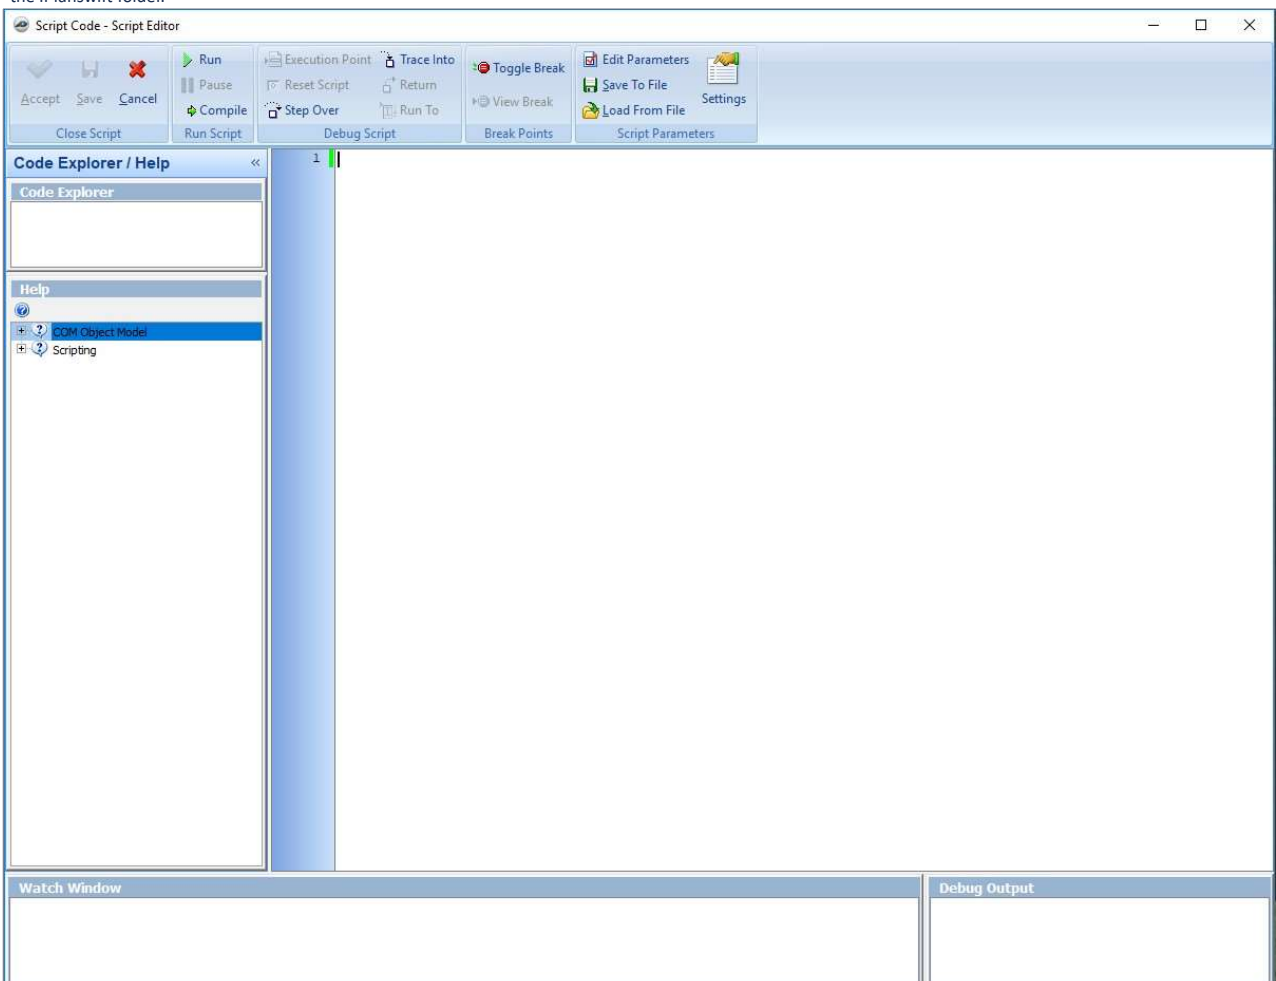

Figure 11
11. This opens the **Script Code - Script Editor** window (Figure 11). The large **Script Editor** window on the right is where plugin code is written. The **Code Explorer** window will list variables and procedures as they are coded into the **Script Editor** window. The **Help** window contains the **COM Object Model** and **Scripting** selections available to use in the **Script Editor** window. Clicking on the "+" symbol opens the folder and subfolders. Click on the "+" left of **COM Object Model**, then click on the "+" left of the **IPPlanswift** folder.